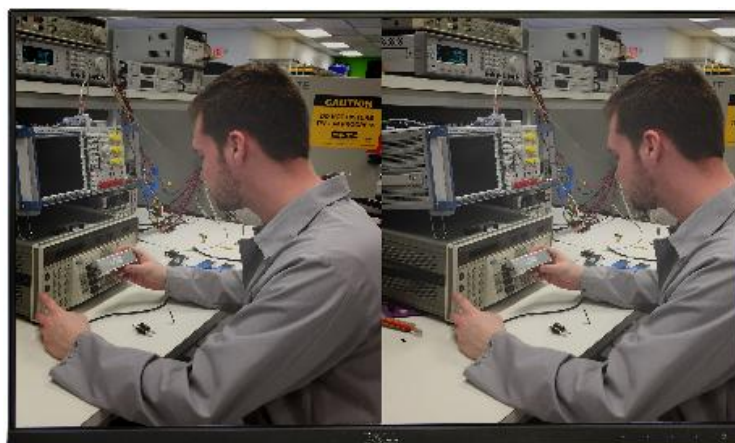

Figure 5.1. Dual Camera Merged Image
3. Connect the HDMI cable from CN1 of HDMI VIP output board to the HDMI display/monitor. The monitor displays the dual camera merged image as shown in Figure 5.1.